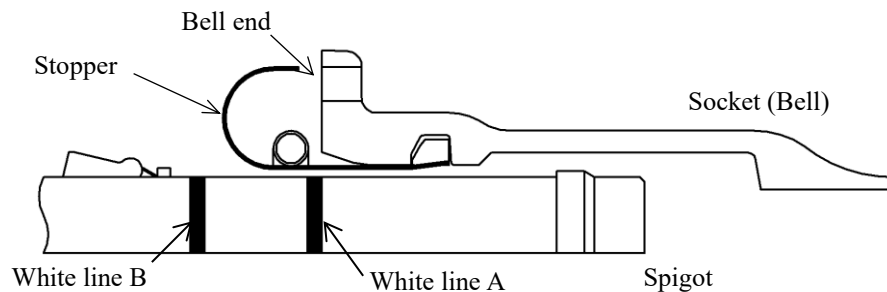

Figure-11 Inserting spigot into socket
- (1) Lift the pipe with a crane to insert the spigot into the socket.
- (2) Keep pulling the spigot slowly until the white line A reaches the bell end, then stop pulling the spigot. (See Figure-11.)
- (3) Pull out the stopper, then confirm that the lock ring holds the spigot (the joint is locked).